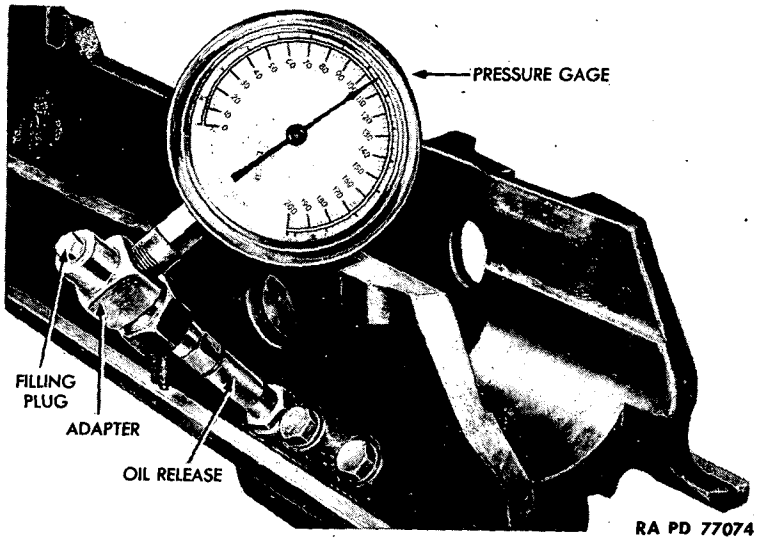

Figure 22—Checking Gas Pressure in Recoil Mechanism
(6) If gas leaks past the floating piston, it may be detected by the foamy appearance, and the sputtering of the oil, when draining off the reserve oil.
(7) Place the bottom sleigh (recoil mechanism) in a horizontal position. Remove the filling and drain plug located in the yoke. Connect the oil release (fig. 22). As the oil release is screwed in, the reserve oil is released and should be caught in the thermometer. The reserve oil should be allowed to flow until the flow of oil practically ceases. The oil index should move inward beyond the face of the oil index follower.
(8) Make a record of the temperature. Keep the thermometer out of the sun. This should represent as accurately as possible the temperature inside the recoil mechanism.
(9) Disassemble the pressure gage connection by unscrewing the large hexagonal nut. Attach the smaller part of the connection to the oil release, and attach the pressure gage to the larger part of the connection. Assemble the two parts of the connection to the oil release, being careful not to break off the oil release in the filling valve. Make all joints tight enough to hold a pressure of approximately
(1) Force the recoil piston to the rear (about 2 inches) by means of the screw jack, permitting the oil to escape through the oil release B103913. Do not remove jack.
(2) Attach pressure gage to oil release (fig. 22).
(3) Force the recoil piston forward, by means of the screw jack, until the gage shows 1,200 to 1,500 pounds per square inch pressure.